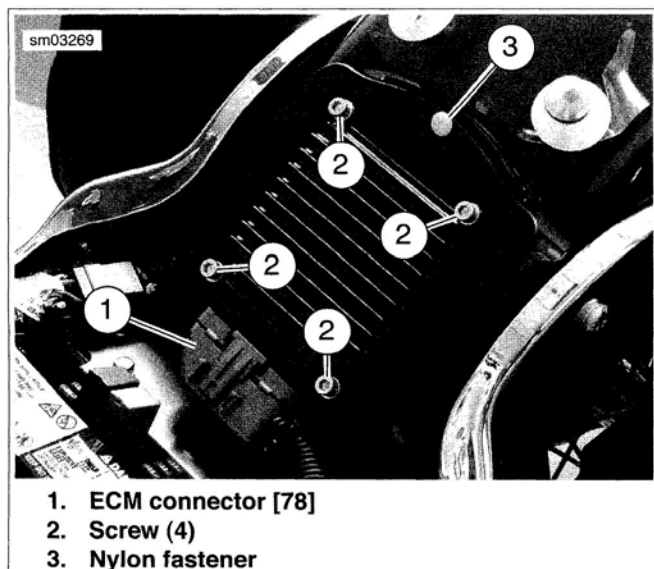

Figure 2-110. ECM Mount
5. See Figure 2-110. Remove nylon fastener (3) from electrical box.
2. Carefully place the fender into position. Install fender supports using hardware shown. Tighten fasteners (2) to 21-27 ft-lbs (28.5-36.6 Nm). Tighten fasteners (1) to an initial torque of 30-35 ft-lbs (40.7-47.5 Nm). Loosen fasteners (1) and final-tighten to 38-42 ft-lbs (51.5-56.9 Nm).
4. See Figure 2-110. Install nylon fastener (3) into electrical box and fender.